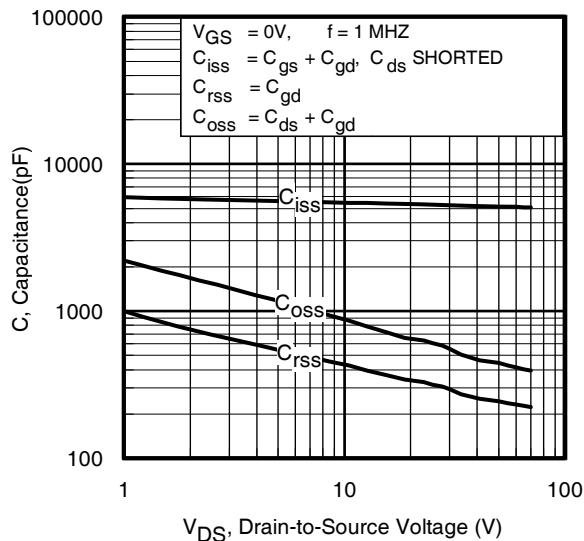

Fig 5. Typical Capacitance vs. Drain-to-Source Voltage
| $C_{oss \text{ eff. (TR)}}$ | Effective Output Capacitance (Time Related)⑥  | —    | 700  | —    |       | $V_{GS} = 0V, V_{DS} = 0V \text{ to } 60V$ ⑧ See Fig. 5  |